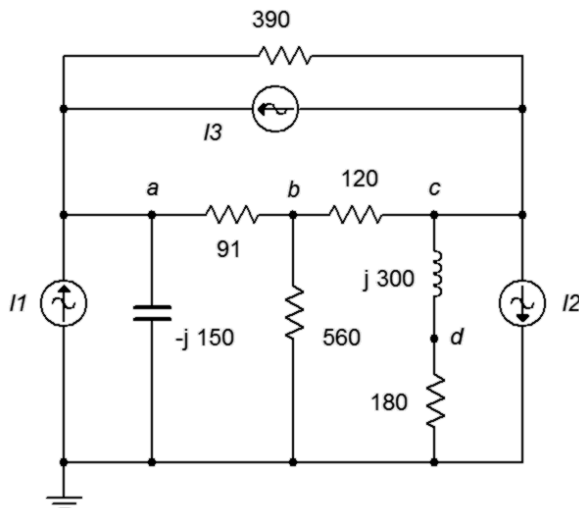

Figure 6.32
67. Given the circuit in Figure 6.32, use nodal analysis to determine v_{ad} . $I1 = 0.1\angle 0^\circ$, $I2 = 0.2\angle 0^\circ$, $I3 = 0.3\angle 0^\circ$.